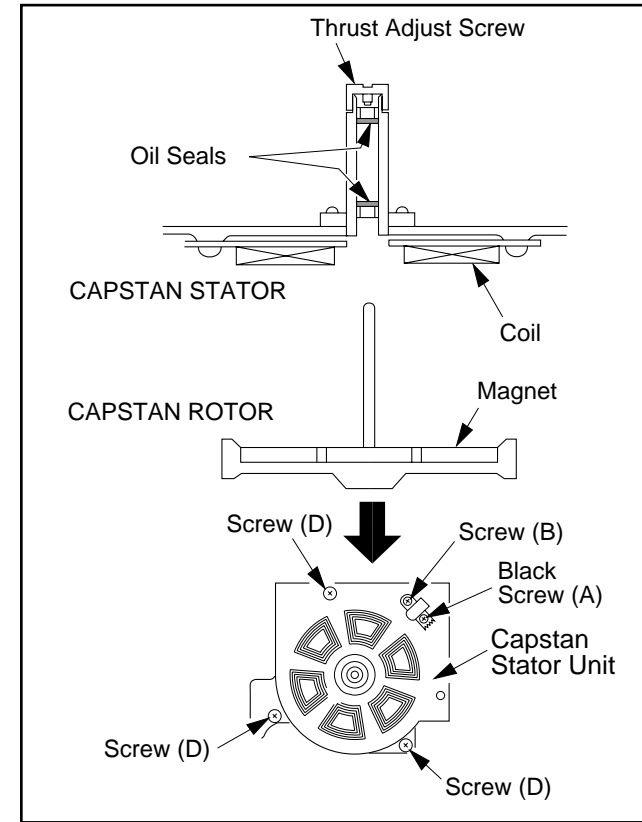
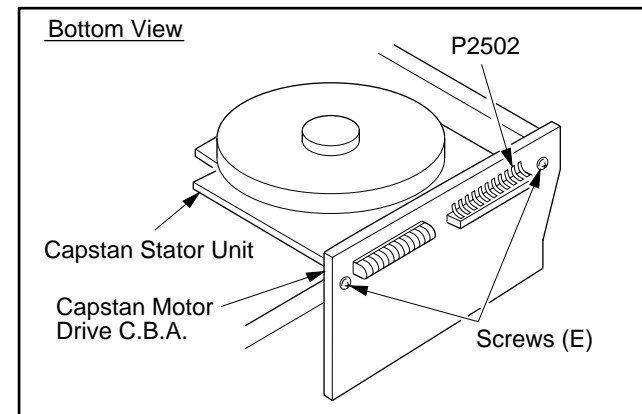

Fig. M19
Fig. M20.
3. Carefully pull out the Capstan Rotor Unit. Be careful not to lose the 2 Oil Seals shown in Fig. M19.
4. Carefully unsolder P2502 on the Capstan Motor Drive C.B.A.. Then remove the Capstan Motor Drive C.B.A. by removing 2 Screws (E) shown in Fig. M20.
5. Remove 3 Screws (D), Black Screw (A) and Screw (B). Then lift out the Capstan Stator Unit.
6. Install the new Capstan Stator Unit and then tighten 3 Screws (D), Black Screw (A) and Screw (B).
8. Install the new Capstan Rotor, carefully inserting the Oil Seals as shown in Fig. M19.